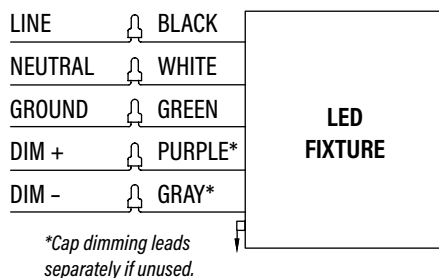

Fig. 4
4. Pull the wire from the J-box through the center hole, and attach the fixture to the J-box with proper screws. (Fig. 4) Apply silicone sealant (not provided) to any mounting holes to prevent water entry.